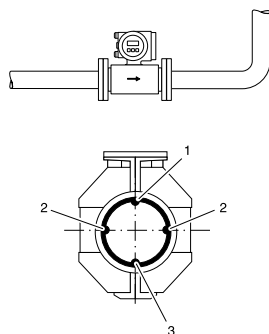

Figure 2: Orientation in case of Empty Pipe Detection (1)
**If the Empty Pipe Detection is used** the correct sensor orientation must be considered (see Figure 2).